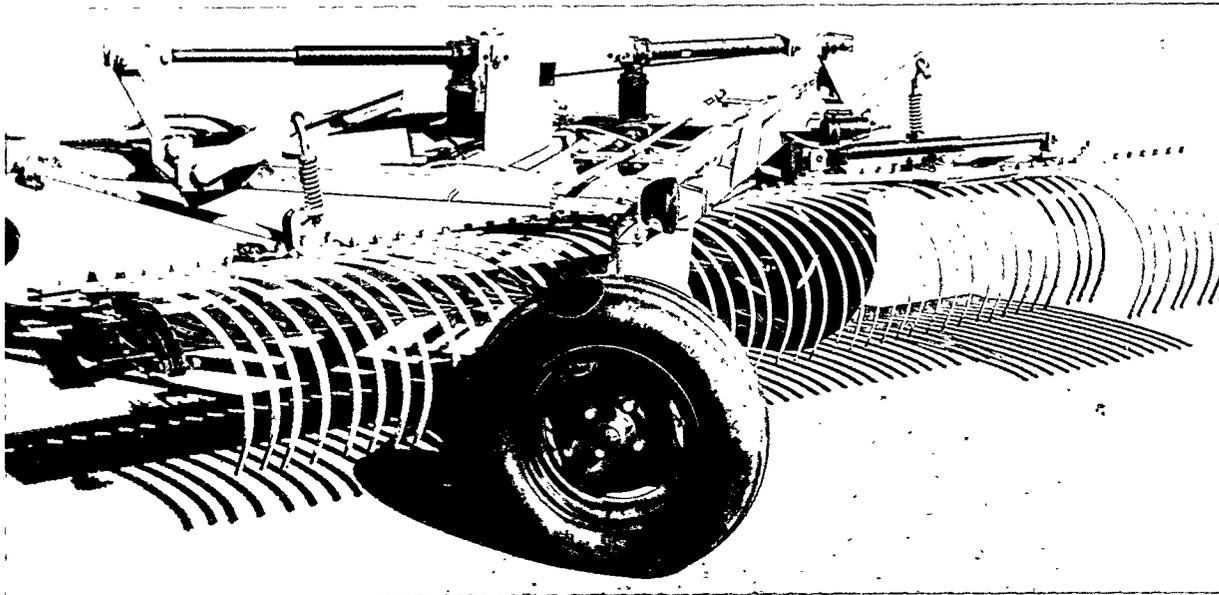

Figure 1. Model RB rock rake with electric actuators added.
The San Dimas Equipment Development Center (SDEDC) has modified the York model RB rock rake (fig. 1) by (1) adding four electric actuators to it and (2) placing a control for each actuator inside the cab of the towing vehicle. The actuators perform the following adjustments: